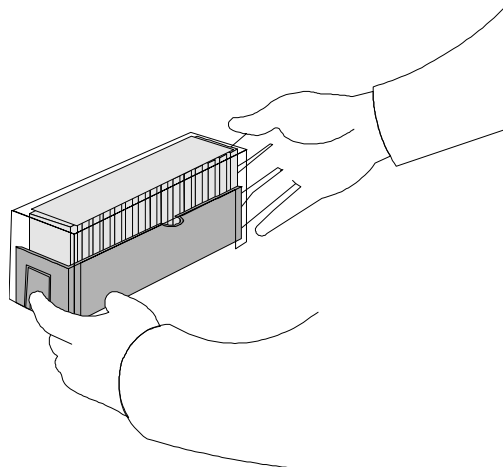

Figure 9. Removing the Magazine Cover
- ❑ Remove the magazine cover. You can remove the cover by pressing the middle of both ends (where it is labeled PUSH) and lifting up (see Figure 9).